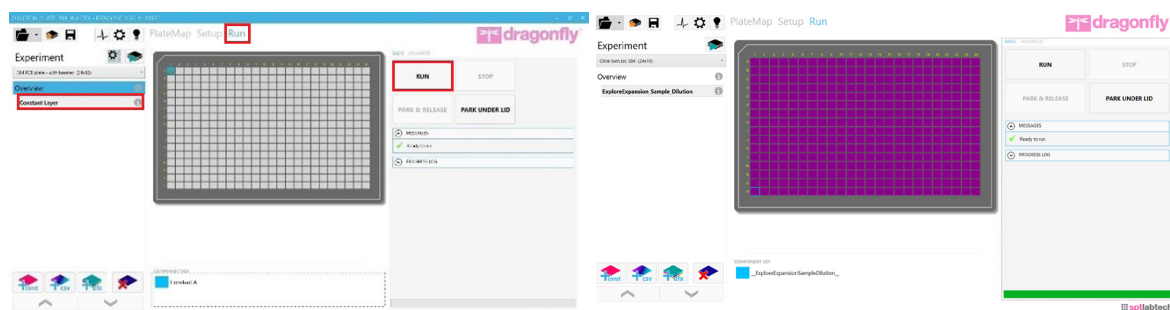

Figure 4. Run tab and Run button (left). Filled Plate (right).
5. Select the Run tab in the Constant layer view of the software (*Figure 4*), then click **RUN** to start the program.